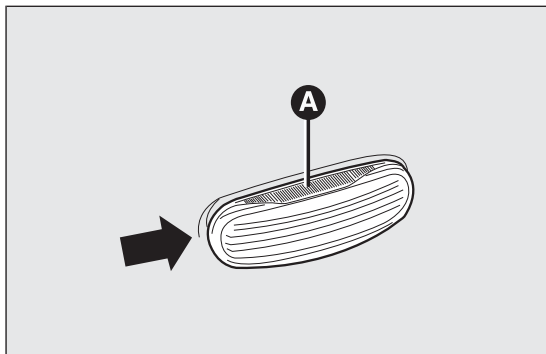
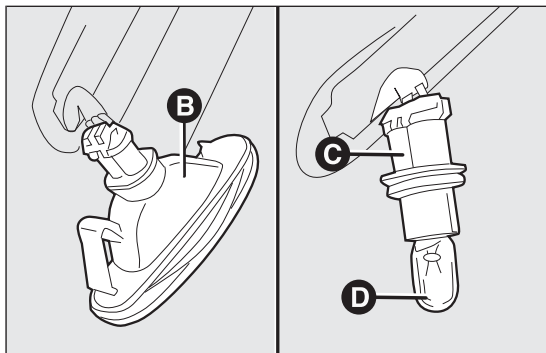

fig. 138
fig. 139
- ☐ operate the lens A fig. 138 to press in the internal catch B fig. 139, then pull the unit outwards;